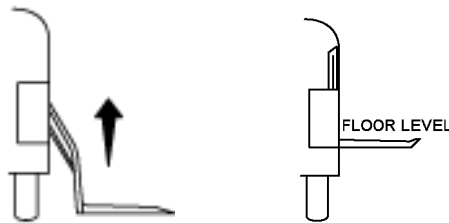
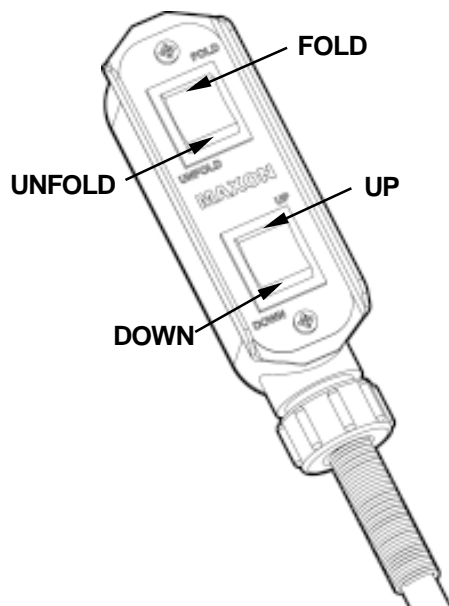

FIG. 19 RAISING LIFT UP TO VEHICLE FLOOR LEVEL
FIG.20 WHEELCHAIR LIFT HAND CONTROL
1. Activate **FOLD** switch on Lift HAND CONTROL (FIG.19) to close PLATFORM (FIG. 17). Fold operation will stop automatically when completed.
2. Activate **UP** switch on Lift HAND CONTROL (FIG.20) to raise PLATFORM to vehicle floor level (FIG. 19).
3. Activate **FOLD** switch on Lift HAND CONTROL (**FIG. 20**) to close PLATFORM (**FIG. 21**). Fold operation will stop automatically when completed.